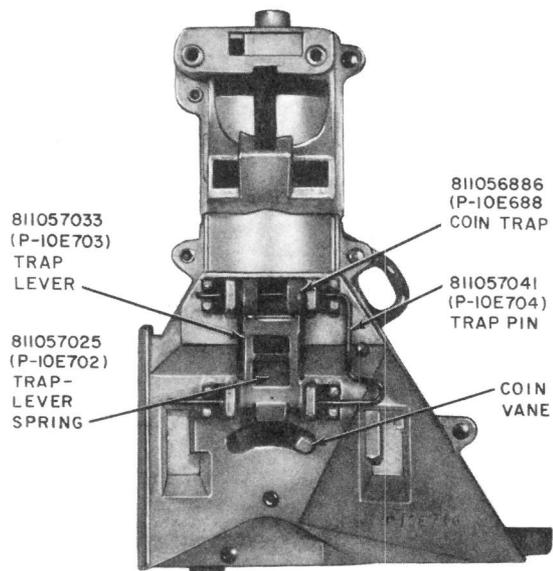

Fig. 40—Coin Trap and Trap Lever Assembly
- (1) Remove coin relay from hopper, if applicable.
- (2) Move vane to right.
- (3) Remove trap pin (Fig. 40) by sliding vertical portion over boss on front of hopper.
- (4) Turn coin trap sideways and remove through opening.